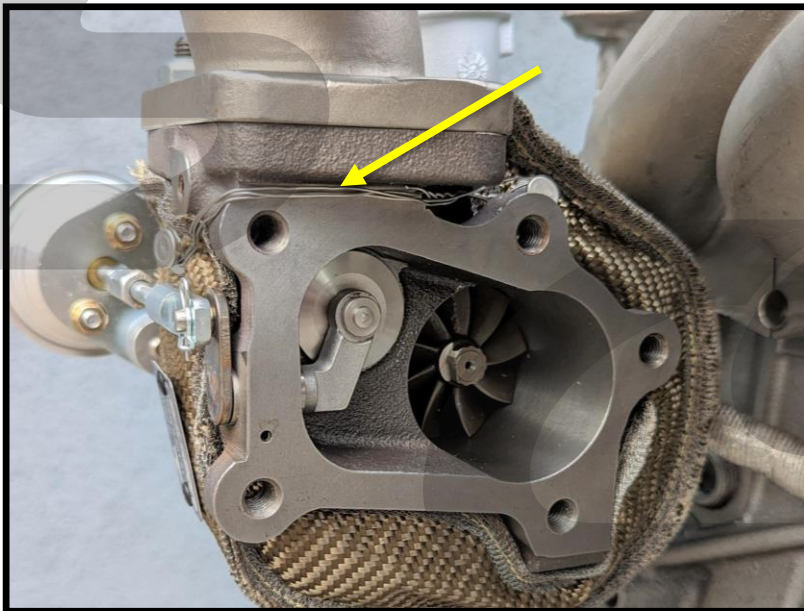

Figure 2i
- i) Ensure that the wire is run up and out of the way of where the downpipe flange is located as seen in **Figure 2i**.